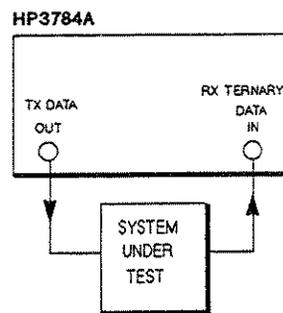

Figure 3-1 Equipment Setup
1. Connect the equipment as shown in Figure 3-1 below: